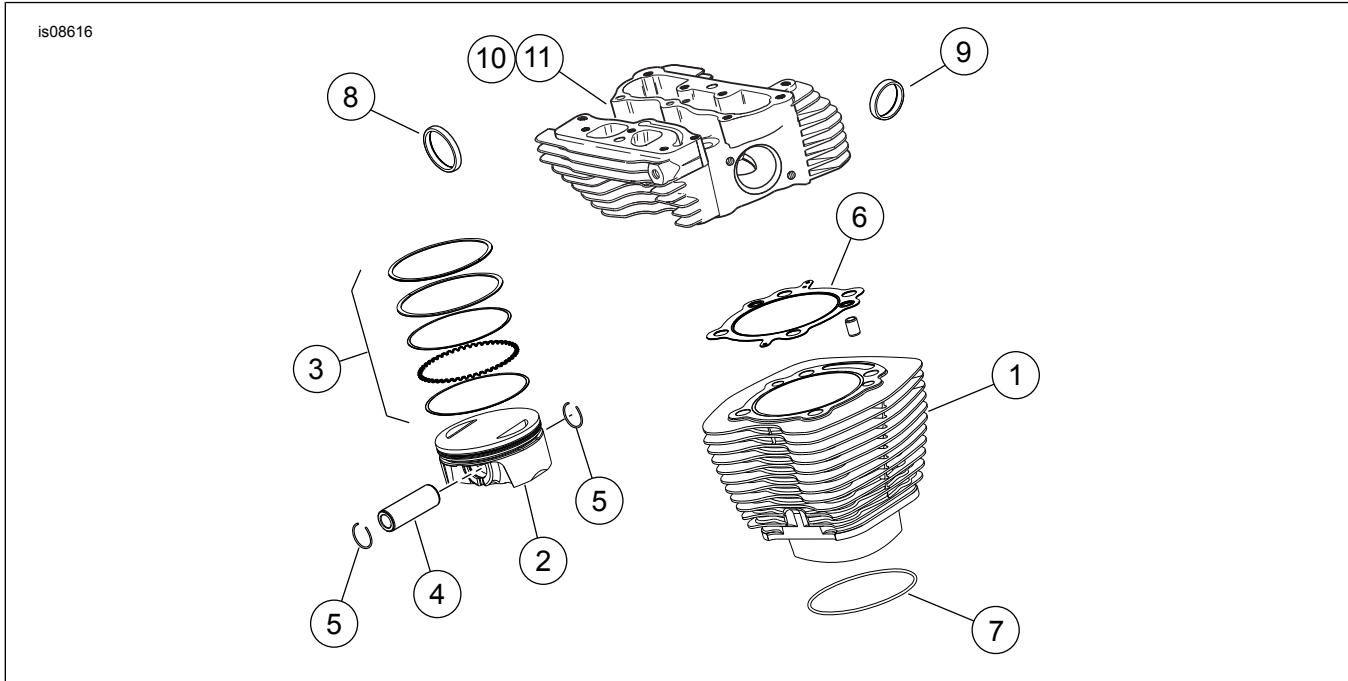
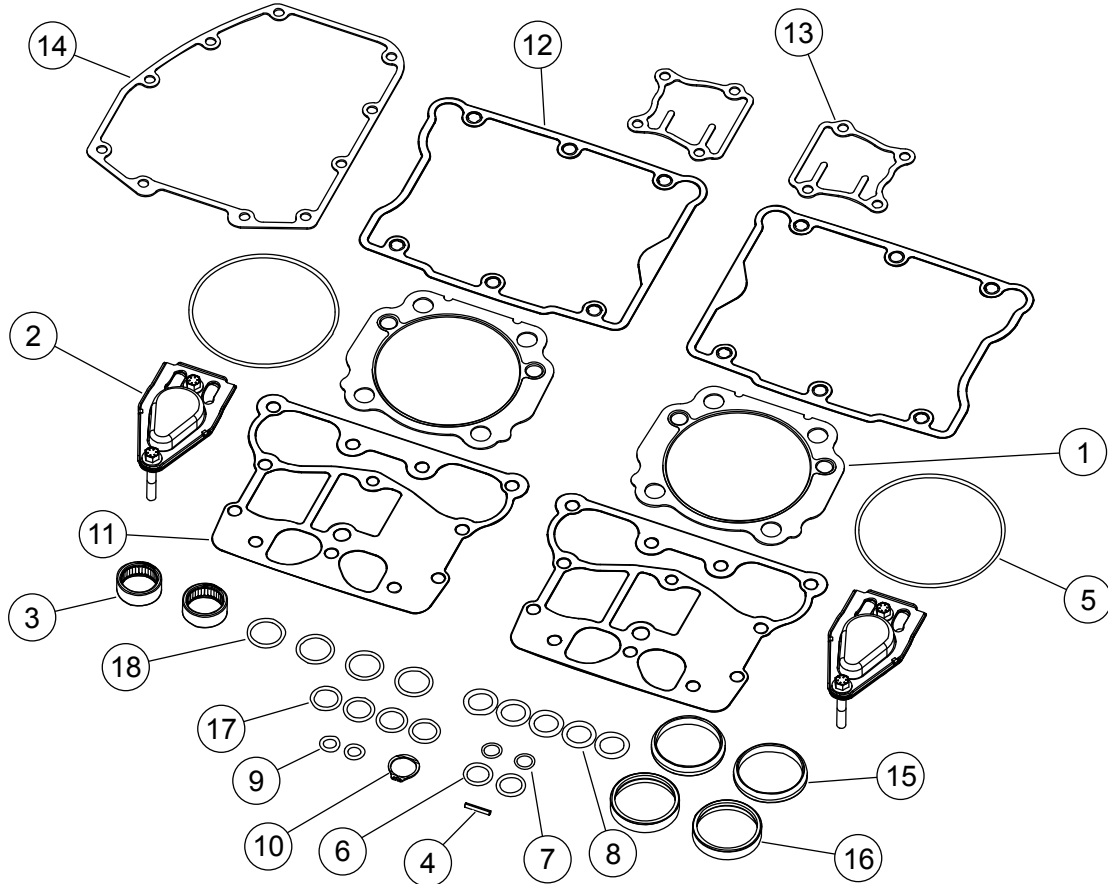

Figure 1. Service Parts: Screamin' Eagle Twin Cam 110 (103 CI to 110 CI) Tire Shredder Kit
Figure 4. Service Parts: Screamin' Eagle Twin Cam 110 (103 CI to 110 CI) Tire Shredder Kit
See Figure 1 to Figure 4, and Table 1 to Table 4.
2. See Figure 1 through Figure 3. See the service manual. Assemble cams to camplate, performance cylinder heads and engine top end using parts from kit.